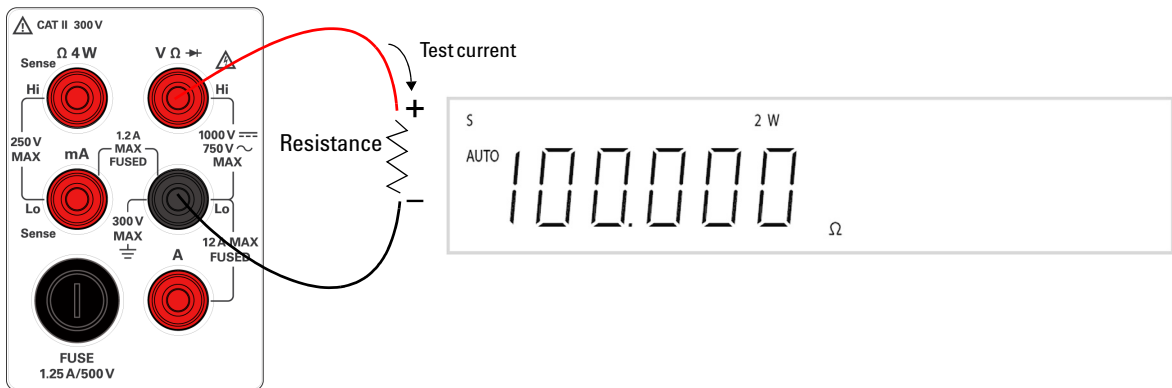
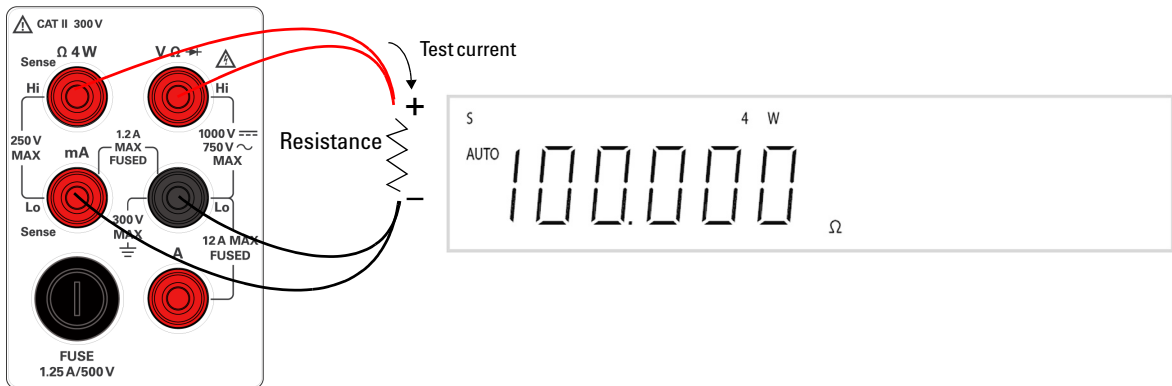

Figure 1-15 2-wire Ω terminal connection and display
Figure 1-16 4-wire Ω terminal connection and display
- 2 Connect the red and black test leads to the input terminal as shown in Figure 1-15 or Figure 1-16 on page 25 respectively (according to the selected measurement method).